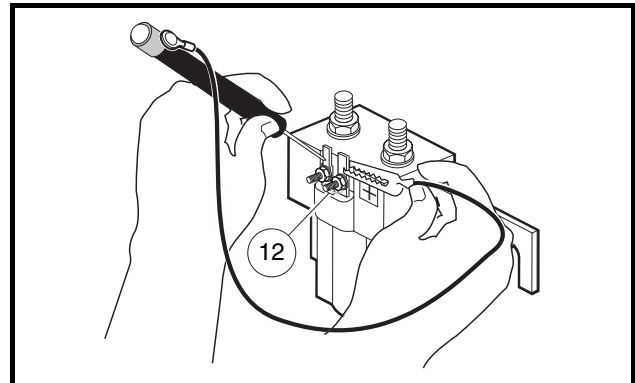

Figure 11-15 Diode Test – Probe Position Two
- 3.2. Reverse the positions of the probe and alligator clip (**Figure 11-15, Page 11-18**). The tester should **not** illuminate. If any other reading is obtained, the diode must be replaced. If the diode is functioning correctly, proceed to step 5.